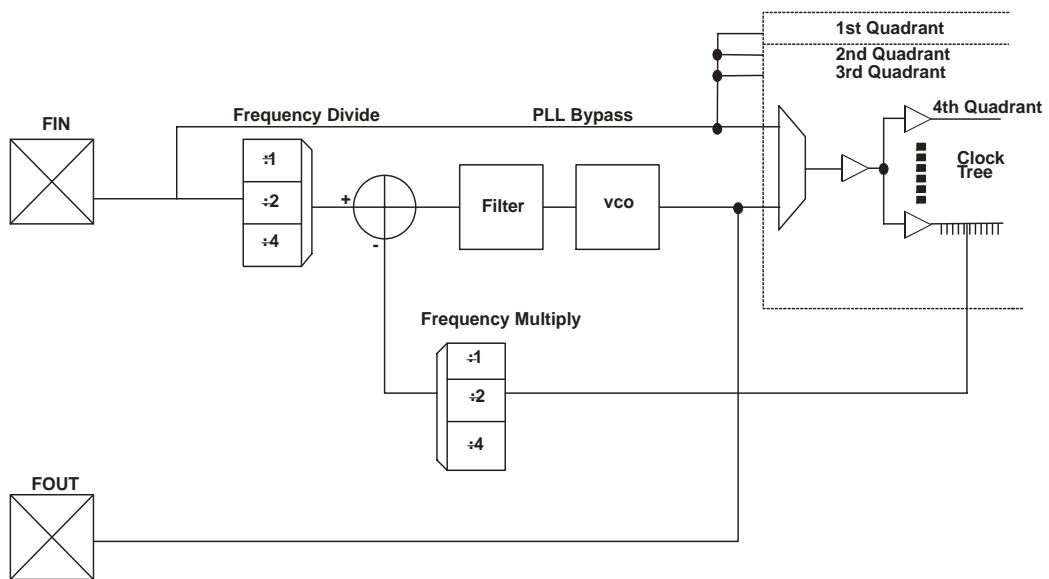

Figure 17: PLL Block
Figure 17 illustrates a typical QuickLogic FPGA PLL.
Within the PLL, a voltage-controlled oscillator (VCO) is added to the circuit. The external F_{in} signal and the local VCO form a control loop. The VCO is multiplied or divided down to the reference frequency, so that a phase detector (the crossed circle in Figure 17) can compare the two signals. If the phases of the external and local signals are not within the tolerance required, the phase detector sends a signal through the charge pump and loop filter (Figure 17). The charge pump generates an error voltage to bring the VCO back into alignment and the loop filter removes any high frequency noise before the error voltage enters the VCO. This new VCO signal enters the clock tree to drive the chip's circuitry.
Most QuickLogic products contain four PLLs, one to be used in each quadrant. The PLL presented in **Figure 17** controls the clock tree in the fourth Quadrant of its FPGA. As previously noted, QuickLogic PLLs compensate for the additional delay created by the clock tree itself by subtracting the clock tree delay through the feedback path.
- a. The data provided in **Table 19** are JEDEC and PCI Specifications. QuickLogic devices either meet or exceed these requirements. See preceding **Table 1** through **Table 14** and **Figure 1** through **Figure 17** for data specific to QuickLogic I/Os.